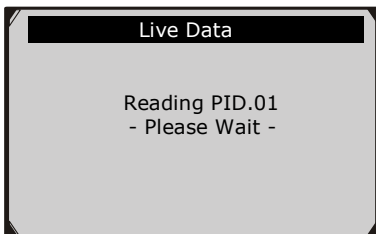

Figure 6.10
- 2) Wait for a few seconds while the scan tool validates the PID MAP. (Figure 6.10)